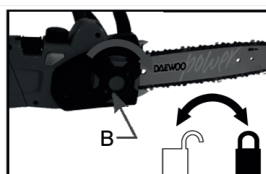

Fig 5C
2. Tighten the side cover knob. The saw chain is correctly tensioned (Fig. 5C).